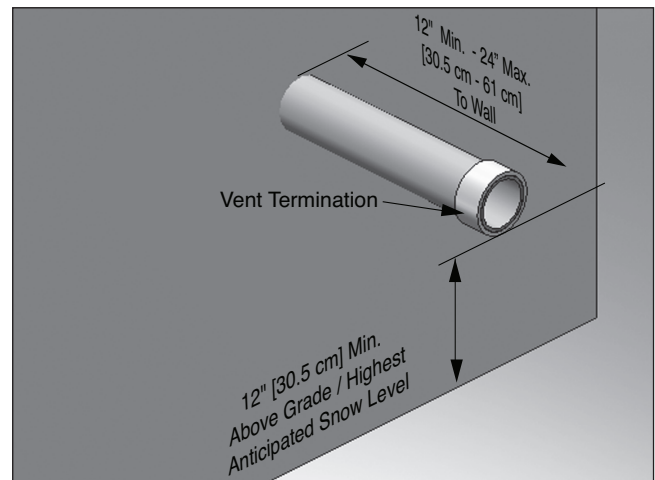
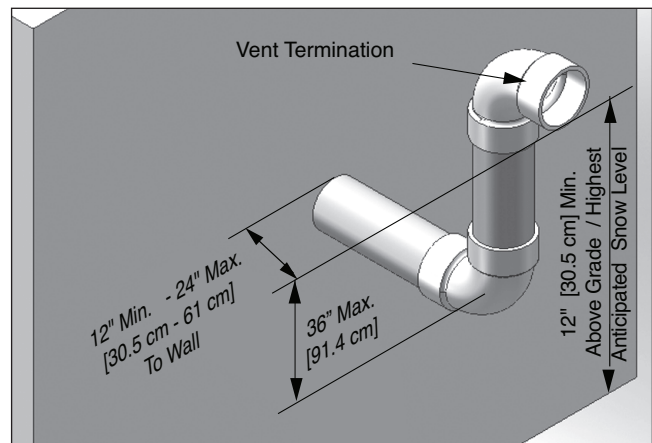
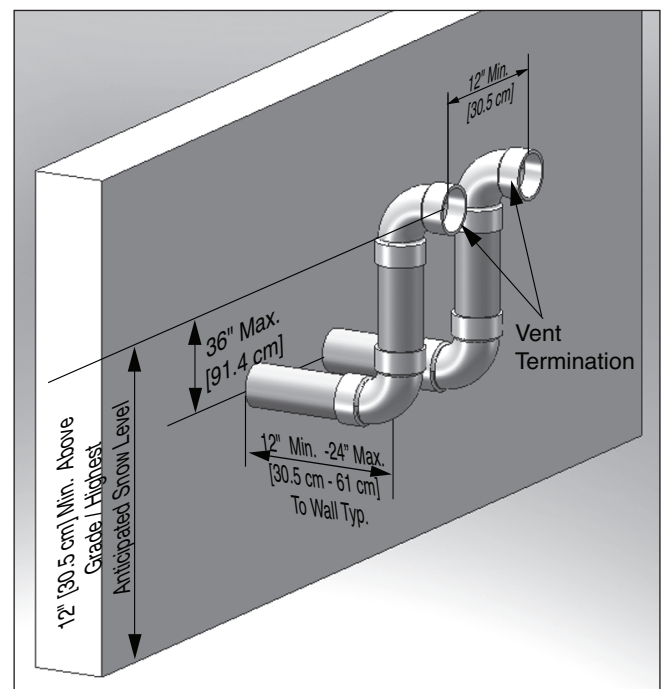

Fig. 17 - Category IV - Sidewall Termination of Vent Pipe
Fig. 18 - Category IV - Sidewall Snorkel Termination of Vent Pipe
Fig. 19 - Category IV - Sidewall Termination of Multiple Prestige Boilers
- Using a coupling as shown in *Fig. 17*.
- Using a 90° elbow as shown in *Fig. 18*.
3. Locate the vent pipe penetration to provide clearances as described in *Fig. 17* and *Fig. 18 on page 26*.
- Using a coupling as shown in *Fig. 17 on page 26*.
- Using a 90° elbow as shown in *Fig. 18 on page 26*.
Do not extend the vent pipe outside the sidewall beyond the dimensions shown in *Fig. 17* and *Fig. 18 on page 26*. Extended exposure of the vent pipe could cause condensate to freeze and block the vent pipe, resulting in substantial property damage, serious injury, or death.
2. Each vent termination must be a minimum 12 in. [300 mm] from the adjacent termination for installations in the U.S. as shown in *Fig. 19 below*. For installations in Canada, provide clearances as required by CAN/CSA B149.1.
- *Fig. 19 shows one option for vent terminations of multiple PRESTIGE boilers. Either termination option shown in *Fig. 17* or *Fig. 18 on page 26* can be used for multiple PRESTIGE boilers. The 12 in. [30.5 mm] minimum distance between centerlines of the vent piping must be maintained for any chosen option.*
- *Reference *Fig. 17* and *Fig. 18 on page 26* for vent termination dimensions for each unit installed in a multiple installation.*